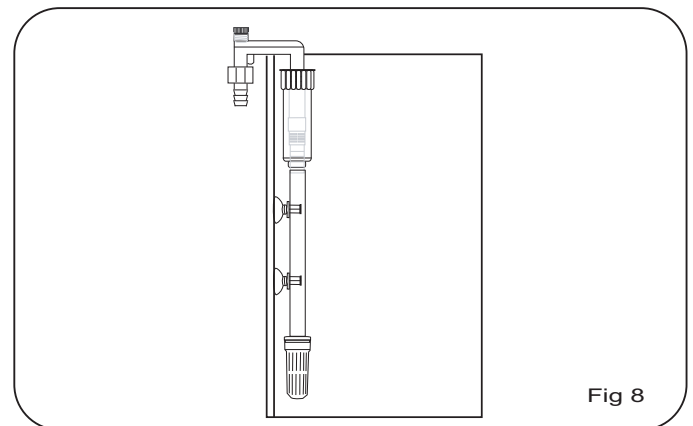

Fig 8
12. Install the inlet first. (One with the Strainer) Place it into the aquarium, stick it to the glass with the Suction Cups on the intake pipe. Fig 8